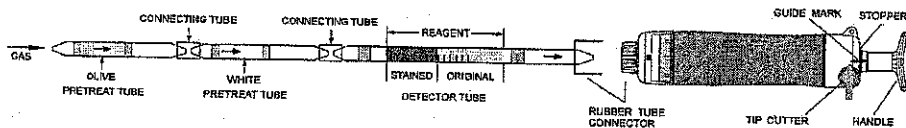

Fig. 1
- ① Break both ends of the detector tube and pretreat tubes, and connect each end of the detector tube and pretreat tubes with connecting tube as shown in Fig. 1.
- ② Insert the detector tube into the aspirating pump securely as shown in Fig. 1. (Arrow marks on the detector tube and pretreat tubes shall point to the pump.)
- ③ Align the guide marks on the shaft and stopper of the aspirating pump.
- ④ Pull the pump handle at a full stroke until it locks and wait for 2 minutes or until the completion of sampling is confirmed with the flow indicator of the pump (See descriptions about the flow indicator in the instruction manual of the pump).
- ⑤ On completion of sampling, read the scale at the maximum point of the stained layer.
- ① Temperature; No correction is necessary.
- ② Humidity; No correction is necessary.
- ③ Atmospheric Pressure;